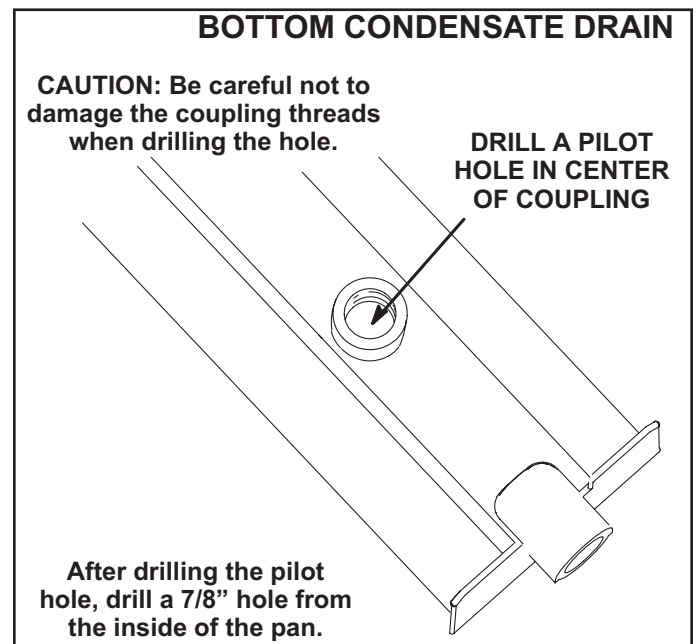

FIGURE 7
- 5 - Turn the drain pan upside down and drill a pilot hole through the bottom of the drain pan in the center of the coupling. See FIGURE 7.